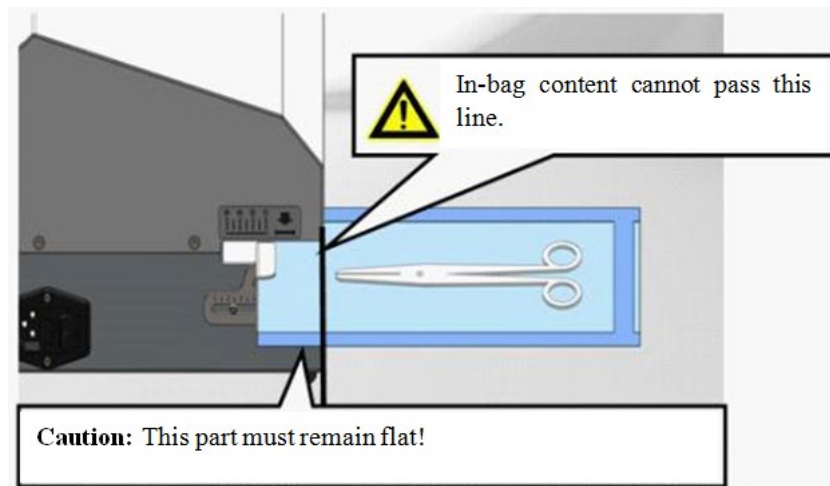

Figure 5
- Make sure the in-bag content has enough distance from the bag edge (Figure 5);